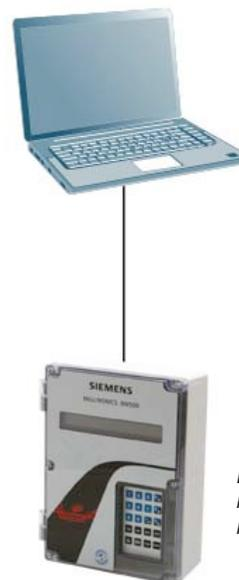

Figure 3: Controller/monitor to one device, in this case a Milltronics BW500 weighing integrator from Siemens.
1. Controller/monitor to a smart device (Figure 3) – In this application, there is one smart device from which data needs to be pulled. This point-to-point application is a common Modbus ASCII/RTU task. The variations in both the protocol and the physical layer are easy to manage, and this application is simple to get working.